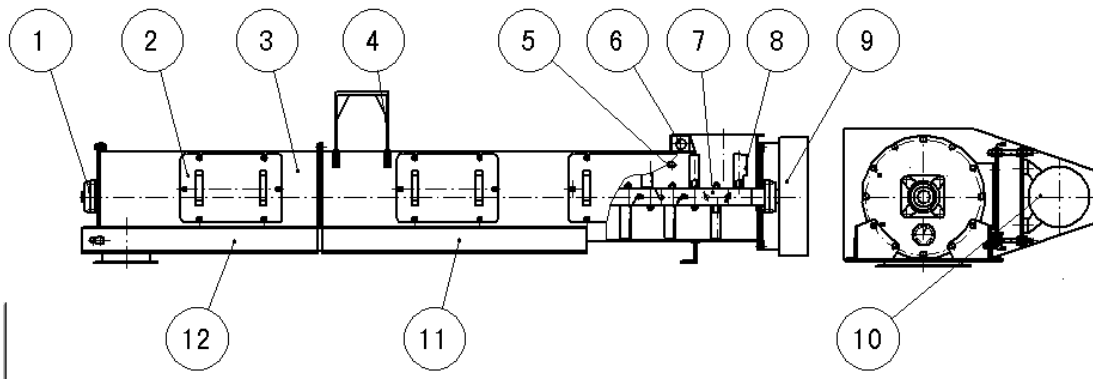

Figure 4 CONDITIONER
3.2 Conditioner (See Figure 4)